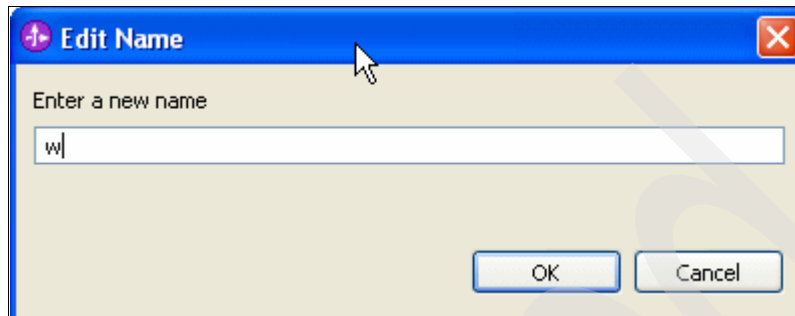

Figure 3-36 Enter For Each iterator variable name
- d. Right-click the For Each item, then select **Rename**. Enter the new name as *w*, as shown in Figure 3-36, and then click **OK**. The name *w* is the name of the iterator variable.